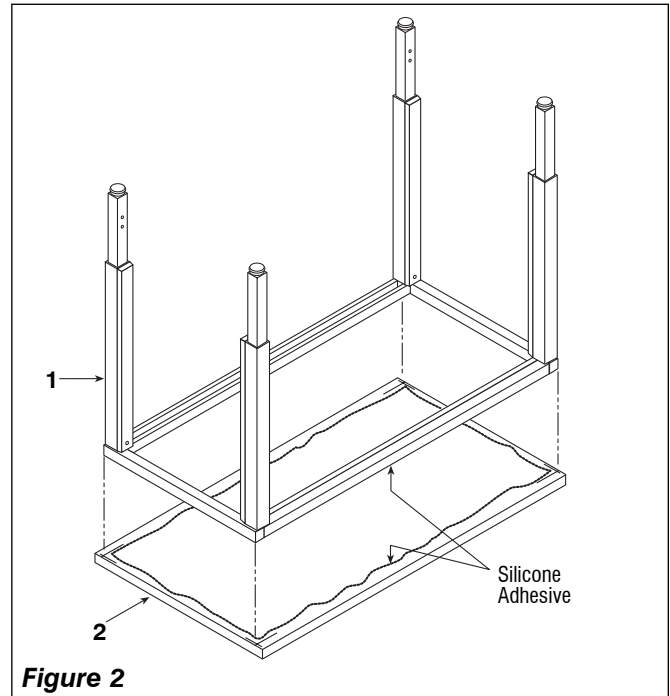

Figure 2
(Refer to Fig. 2 and 3)
1. Locate the epoxy top (2) and lay it bottom side up on a clean level surface. Temporarily center the frame assembly (1) onto the top. (Fig. 2)
2. Make sure the frame assembly (1) is centered on the top (2) with an equal amount of overhang at the front and rear and on both ends. Mark guidelines on the under side of the top at the four corners with a pencil. (Fig. 2)
4. Apply a bead of silicone adhesive to the top surfaces of the frame assembly. Center the frame assembly back onto the epoxy top using the guidelines made previously. Allow the assembly to dry over night. (Fig. 2)